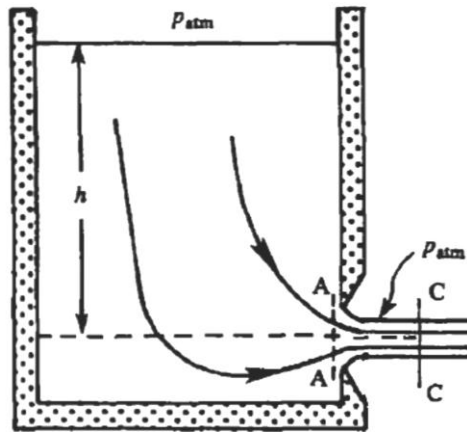

Figure 5: Flow through a sharp edge orifice.
(h) is the head is measured from the center of the orifice to the free surface as in Fig.5. Bernoulli's Eq. applied from a point (1) on the free surface to the center of the *vena contracta* point (c). Neglecting losses, is written